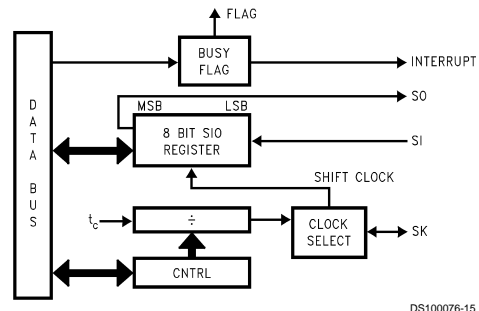

FIGURE 17. MICROWIRE/PLUS Block Diagram
MICROWIRE/PLUS is a serial synchronous communications interface. The MICROWIRE/PLUS capability enables the device to interface with any of National Semiconductor's MICROWIRE peripherals (i.e. A/D converters, display drivers, E²PROMs etc.) and with other microcontrollers which support the MICROWIRE interface. It consists of an 8-bit serial shift register (SIO) with serial data input (SI), serial data output (SO) and serial shift clock (SK). Figure 17 shows a block diagram of the MICROWIRE/PLUS logic.